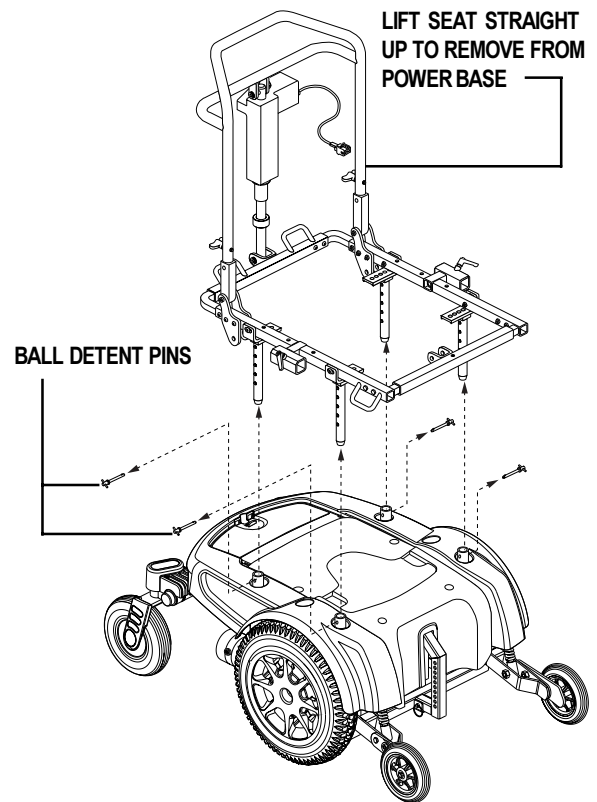

Figure 3. Seat Removal
- 5/16-in. x 3/4-in. socket flat head screw (4)
- 5/16-in. Nylock jam nut (4)
- 5/16-in. x 1 1/2-in. shoulder bolt (4)
- 5/16-in. Nylock nut (4)
1. Remove the ball detent pins that secure the seat post towers to the power base. See figure 3.
2. Remove the seat from the power base by lifting it straight up. The seat post towers will slide free of the seat mount connectors on the power base. See figure 3.